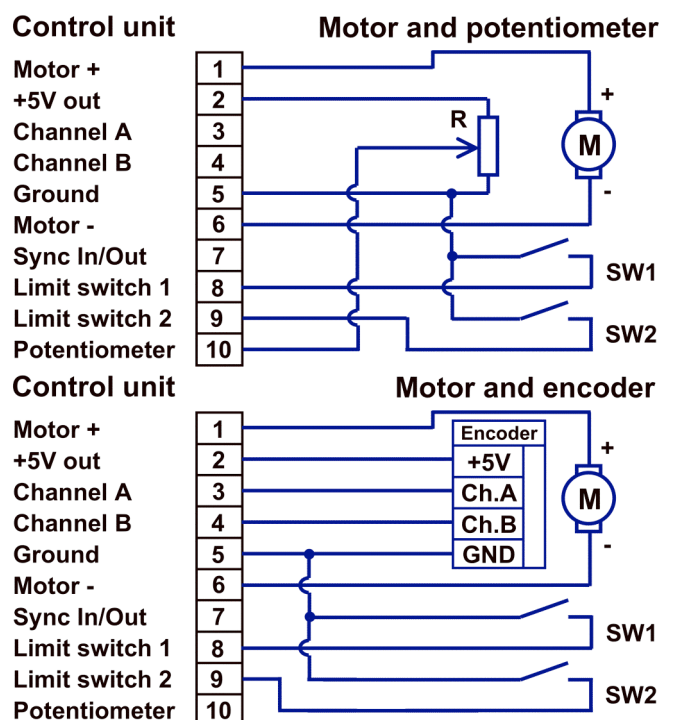

Figure 3. Motor and feedback wiring
5. DC brush motor with feedback meets Table 1 requirements can be used with 8DCMC1-USB control unit. More powerful motors will be limited by control unit to these values, torque and max. speed will be reduced conformably. If you intend to use your own cables for connecting 8DCMC1-USB control unit to motorized stage, please check motor and feedback wiring according Figure 3. Additionally two limit switches can be used: Limit switch 1 and Limit switch 2. These contacts are used for determination of limits in translational stages. It can be set up as normally opened or closed contact, enabled or disabled by software.